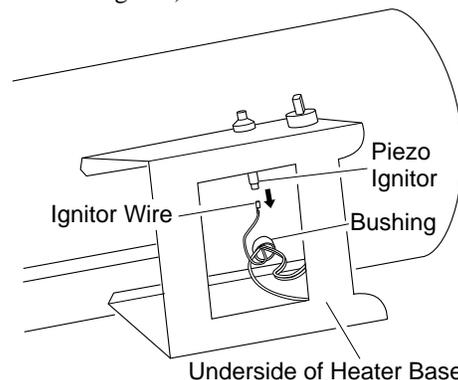

Figure 14 - Removing Ignitor Wire from Piezo Ignitor
2. A) Check ignitor wire. Tighten or reattach loose ignitor wire. See Figure 14, page 8 for ignitor wire location.
2. Remove black ignitor wire from piezo ignitor. Access ignitor wire through underside of heater base (see Figure 14). Push wire up through bushing in heater shell.